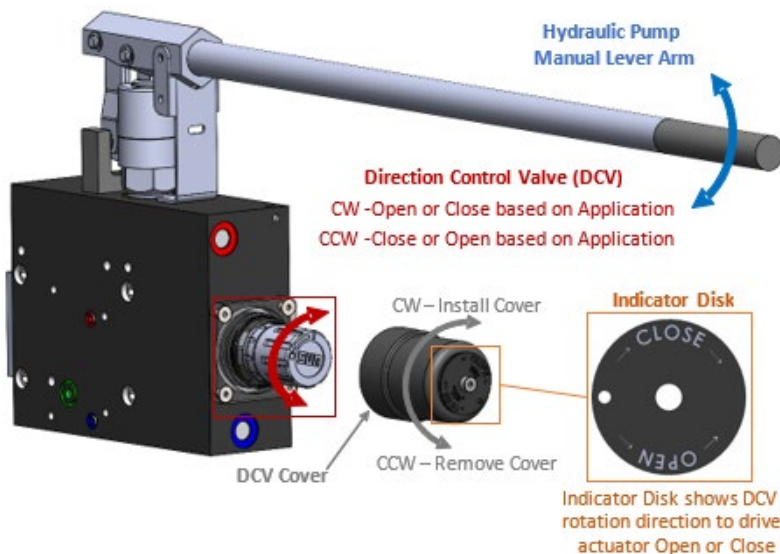

Figure 1: Indicator Disc Locator
- b. Referring to the Indicator Disc in Figure 1, turn the DCV all the way CCW or Clockwise (CW) to open or close the actuator.